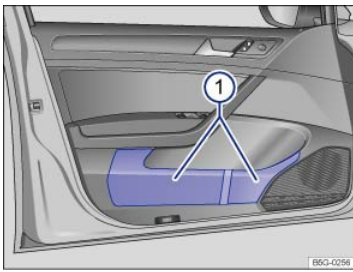

Fig. 148 In the driver door: Storage compartment.
There is a storage compartment in each vehicle door ⇒ Fig. 148①.